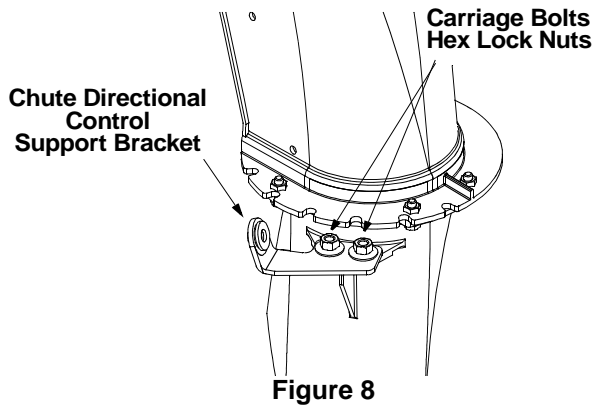

Figure 8
- Loosen the two hex nuts which secure the chute directional control support bracket (see Figure 8) to the snow thrower housing, beside the discharge chute.
- Insert the lower end of the chute directional control into the hole in the plastic bushing in the chute directional control support bracket. See Figure 8.
To adjust the chute directional control support bracket, refer to Figure 8 and accompanying instructions.